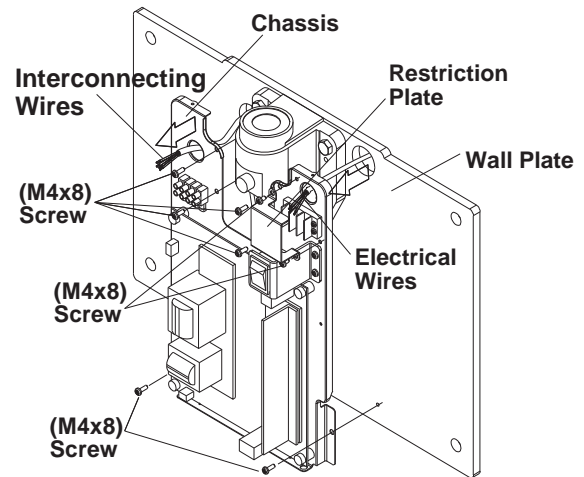

Fig. 3-6 Attaching Chassis to Wall Plate
1. Remove the restriction plate over the terminal blocks by taking out two (M 4 x 8mm) screws. (**Fig.3-6**)
2. Route electrical interconnecting wires and power supply wires through the access holes on chassis and mount the chassis on the arm bracket with three of four (M4 x 8mm) screws. (A screw at lower right corner should be secured with a green wire from arm at setp D 6. on page 10.) Secure the bottom corner of chassis with two (M4 x 8mm) screws to the wall plate. (**Fig.3-6**)